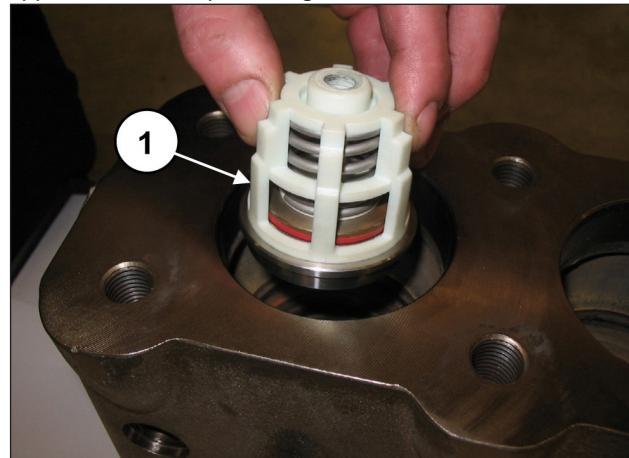
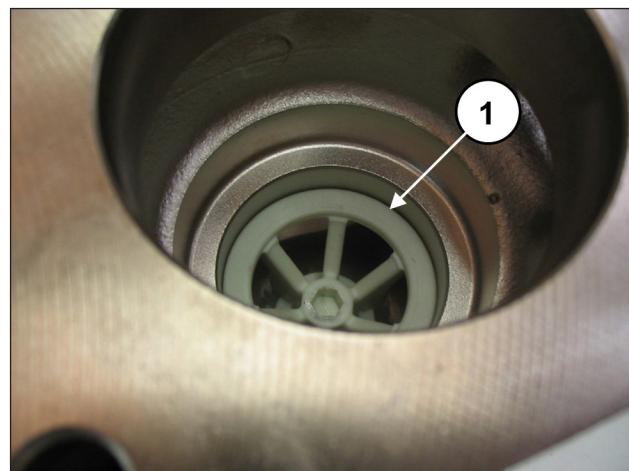

Fig. 115
Fig. 116
Insert the suction-outlet valve unit (pos. ①, Fig. 115) and then the spacer (pos. ①, Fig. 116).
The complete valve unit must be driven fully home and should appear as shown in pos. ①, Fig. 116.